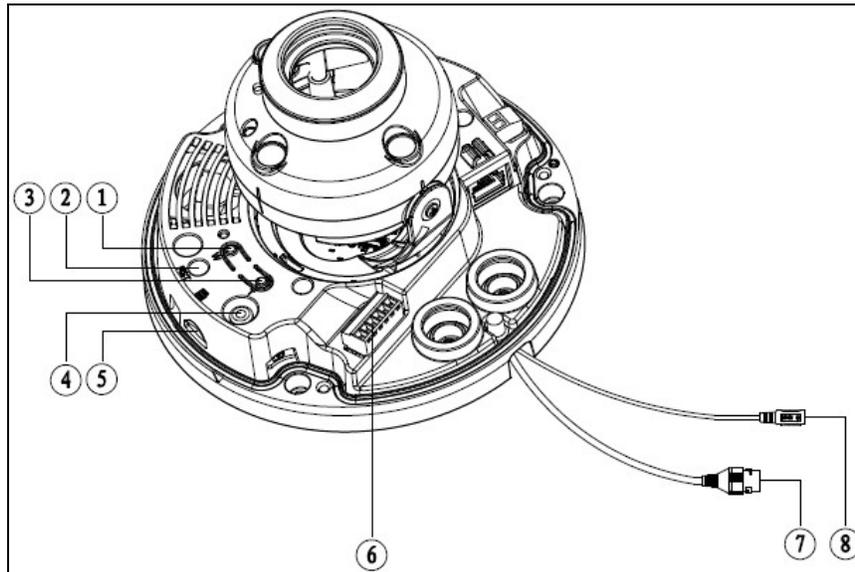

Figure 3-1
9. Connect the appropriate incoming and outgoing audio cables to the I/O terminal on the camera pedestal. Refer to Figure 3-1 for the location of the terminal.
10. Connect an alarm output device to the ALARM_OUT port and to the ALARM_OUT_GND port on the I/O terminal. Note the alarm output is a Normally Open (NO) connection.
16. Connect an analog TV monitor to the Analog Video Output port, on the camera pedestal. This optional step assists with positioning and configuring the camera to produce the desired video scene. Then, press the Reset button for five (5) seconds to reset the camera and send the video signal to the analog output. Refer to Figure 3-1.